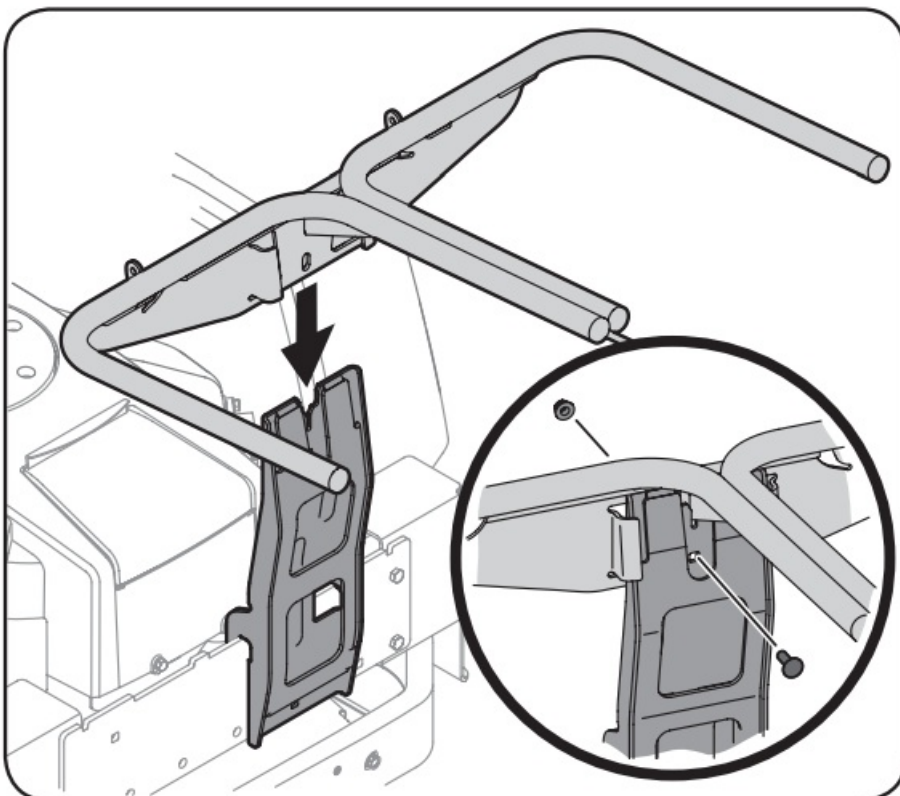

Figure 4-5
6. Install and secure the hanger assembly onto the upright support bracket using a 710-0276 carriage bolt and 71204063 flange lock nut from hardware pack 689-00320. See Figure 4-5.